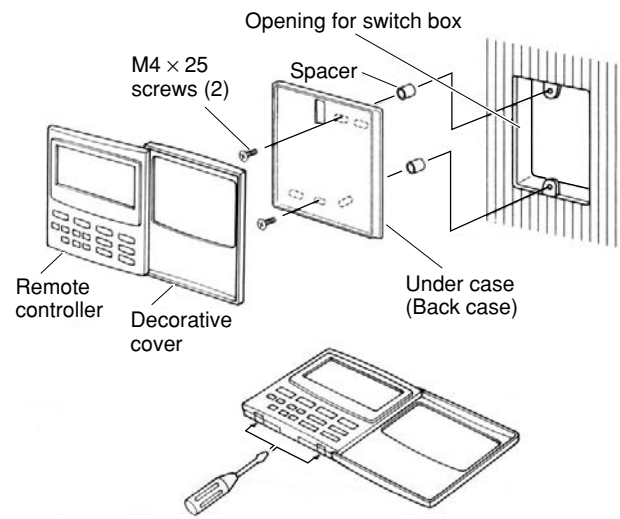

Fig. 6-1
- (1) When you open the decorative cover, you will see 2 gaps under the remote controller. Insert a coin into these gaps and pry off the back case. (Fig. 6-1)
- (2) Attach the back case with the 2 small screws provided. Using a screwdriver, push open the cut-outs on the back case. These holes are for screws. Use the spacers and take care not to tighten the screws excessively. If the back case will not seat well, cut the spacers to a suitable thickness. (Fig. 6-1)
- (3) Connect the remote controller wiring (2 wires) correctly to the corresponding terminals in the electrical component box of the indoor unit.